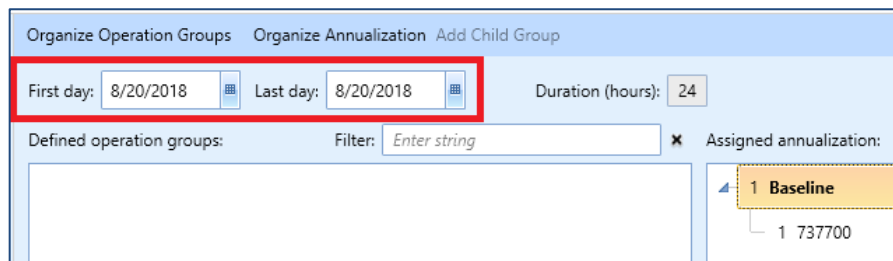

Figure 29. Create Annualization Wizard – Build Annualization
5. Make sure that the First day and Last day are both set to today's date, and that the *Duration* is 24 hours (Figure 29). If the two dates are different, it means that the operation time of one of the aircraft operations were not assigned correctly.